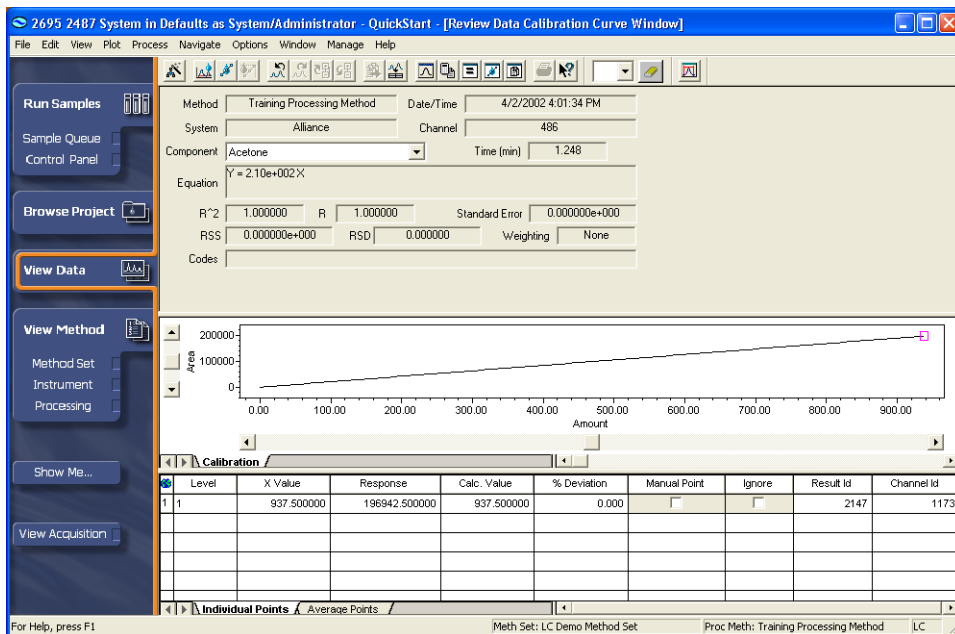

Figure 6-11 Calibration Curve Window
- Click  (Calibration Curve Window) to view the calibration curves. The Calibration Curve window appears (Figure 6-11).
4. Select **File > Save > Calibration** to save the calibration curve and to associate it with the processing method that is currently open. This automatically saves the results for the standard (Figure 6-11).